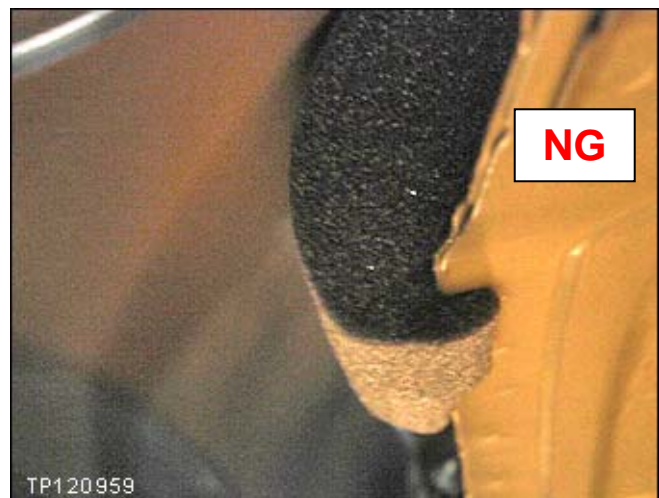

Figure 14
- Figure 14 – example of a baffle **installed incorrectly**.